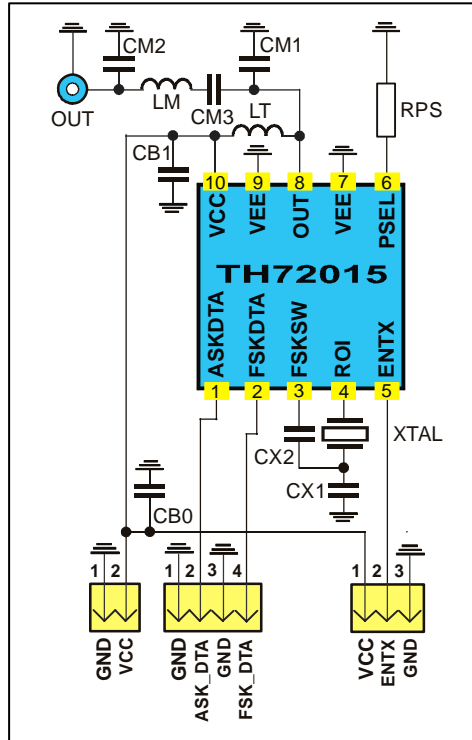

Fig. 18: Test circuit for FSK and ASK with 50 Ω matching network
typical values at $T_A = 23\text{ °C}$ and $V_{CC} = 3\text{ V}$; test circuit shown in Fig. 18, $f_c = 433.92\text{ MHz}$
- Data according to test circuit in Fig. 18
6.1 Test circuit component list to Fig. 18